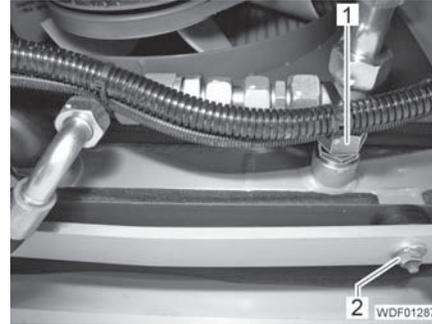

Fig. 83 Underside of the radiator
- Tighten the 2 nuts (Fig. 83,2) with disks and spring lock washers.
- Screw the hydraulic line (Fig. 83,1) onto the connection on the radiator and tighten it.